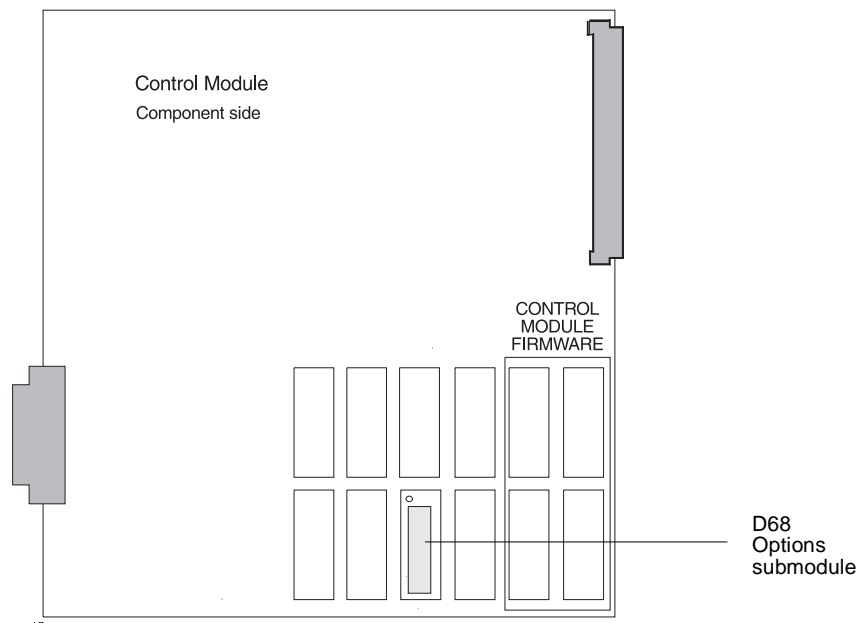

Figure 1: Position of option module
- 2 Insert the options submodule in position D68, as shown in Figure 1.